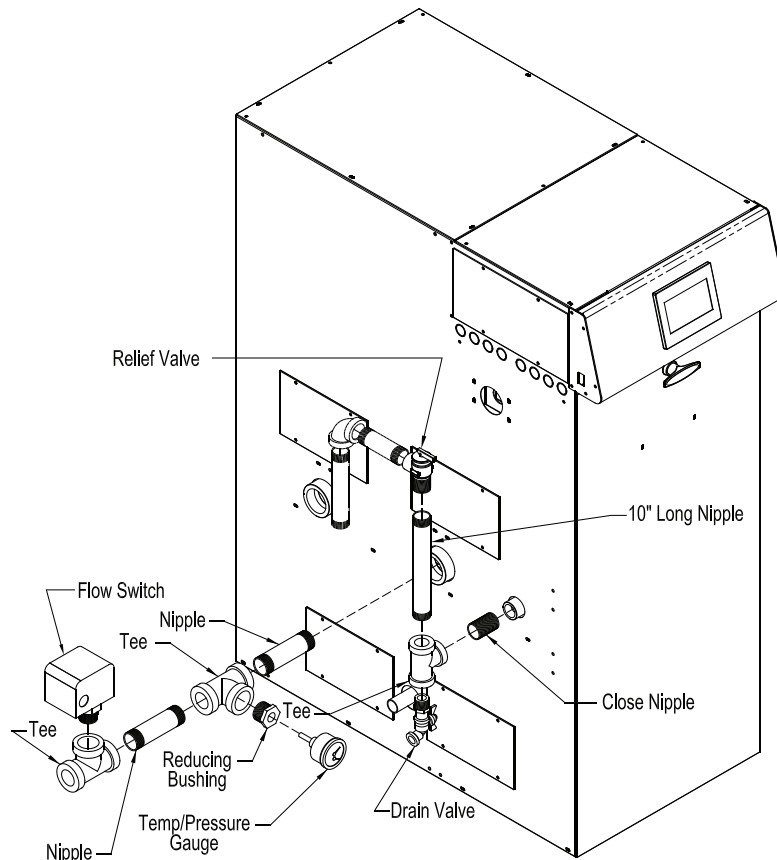
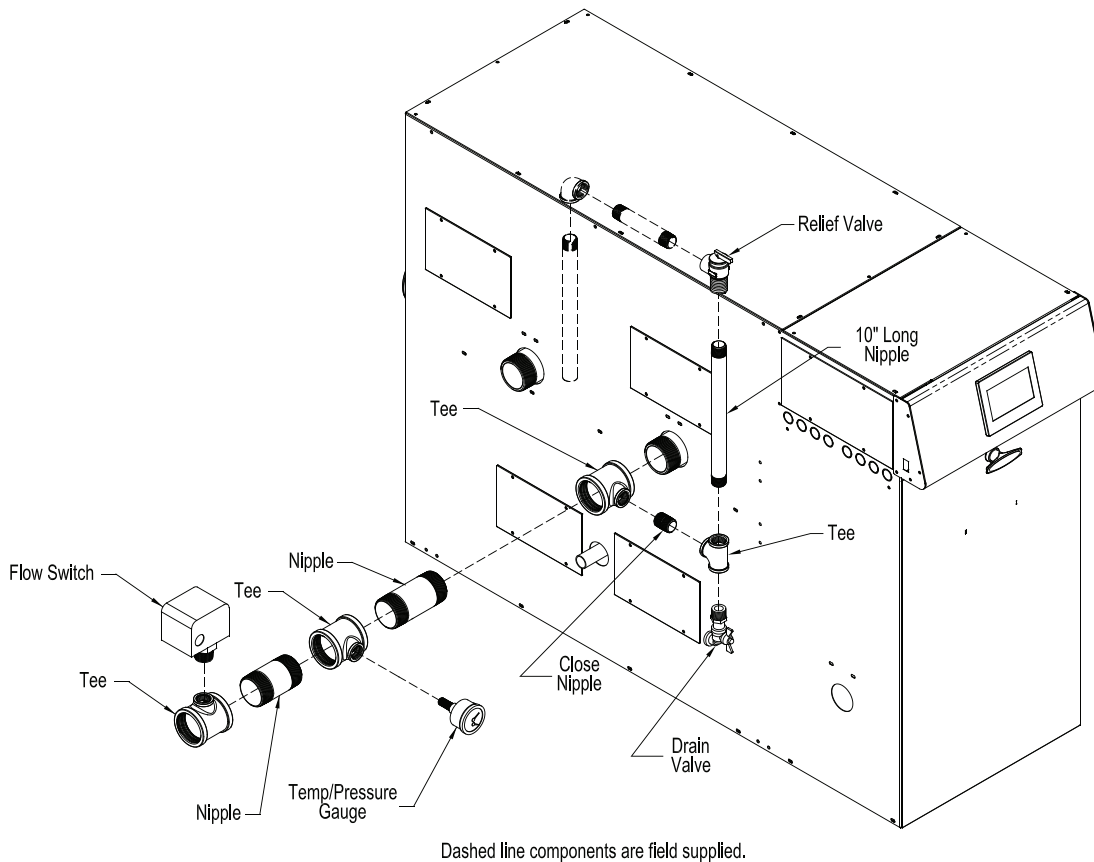

Figure 25: Factory Supplied Piping and Trim Installation - PHNTM399C
Figure 26: Factory Supplied Piping and Trim Installation - PHNTM500C
1. **Install provided components** per Figure 25 for PHNTM399C or Figure 26 for the PHNTM500C. Rear tapping is return/inlet. Front tapping (middle on PHNTM399C) is supply/outlet. Piping and trim components are located in miscellaneous parts carton shipped with the boiler.
1. Safety Relief Valve (Required) – The safety relief valve is packaged loose with boiler and must be installed in the location shown in Figure 25 or 26 “Factory Supplied Piping and Trim Installation”. The safety relief valve must be installed with spindle in vertical position. Installation of the safety relief valve must comply with ASME Boiler and Pressure Vessel Code, Section IV. The standard factory shipped safety relief valve is set at 50 psi (340 kPa) on PHNTM399C and PHNTM500C. If the safety relief valve is to be replaced, the replacement valve must have a relief capacity equal or exceeding the minimum relief valve capacity shown on the heat exchanger ASME plate. Also, when replacing the safety relief valve, verify the temperature and pressure gage meets ASME requirements for the replacement safety relief valve. Pipe the safety relief valve discharge to a location where hot water or steam will not create hazard or property damage if the valve opens.
11. **Drain Valve (Required)** – Drain valve is packaged loose with boiler and must be installed in the location shown in Figure 25, 26 or 27 "Factory Supplied Piping and Trim Installation".